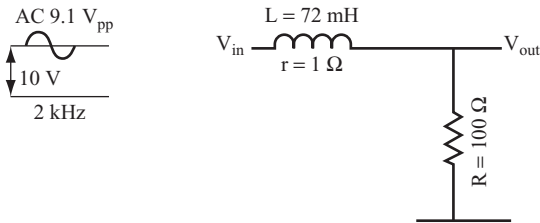

FIGURE 6.60
8. Use the circuit shown in Figure 6.60.